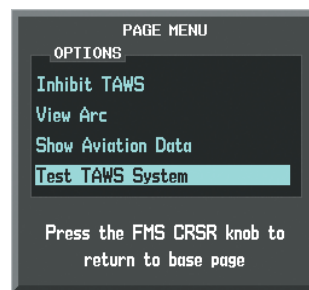

Figure 6-82 TAWS-B Page Menu
- 2) Press the **MENU** Key (Figure 6-82).